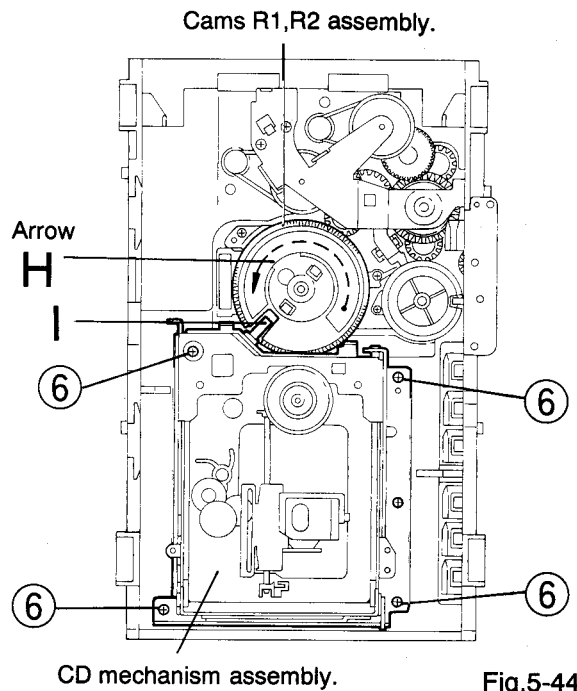

Fig.5-44
Removing the CD mechanism assembly (See Fig. 5-44)
1. While turning the cams R1 and R2 assembly in the arrow direction "H", align the shaft "I" of the CD mechanism assembly to the position shown in Fig. 5-44.
2. Remove the four screws ⑥ retaining the CD mechanism assembly (See Fig. 5-44).